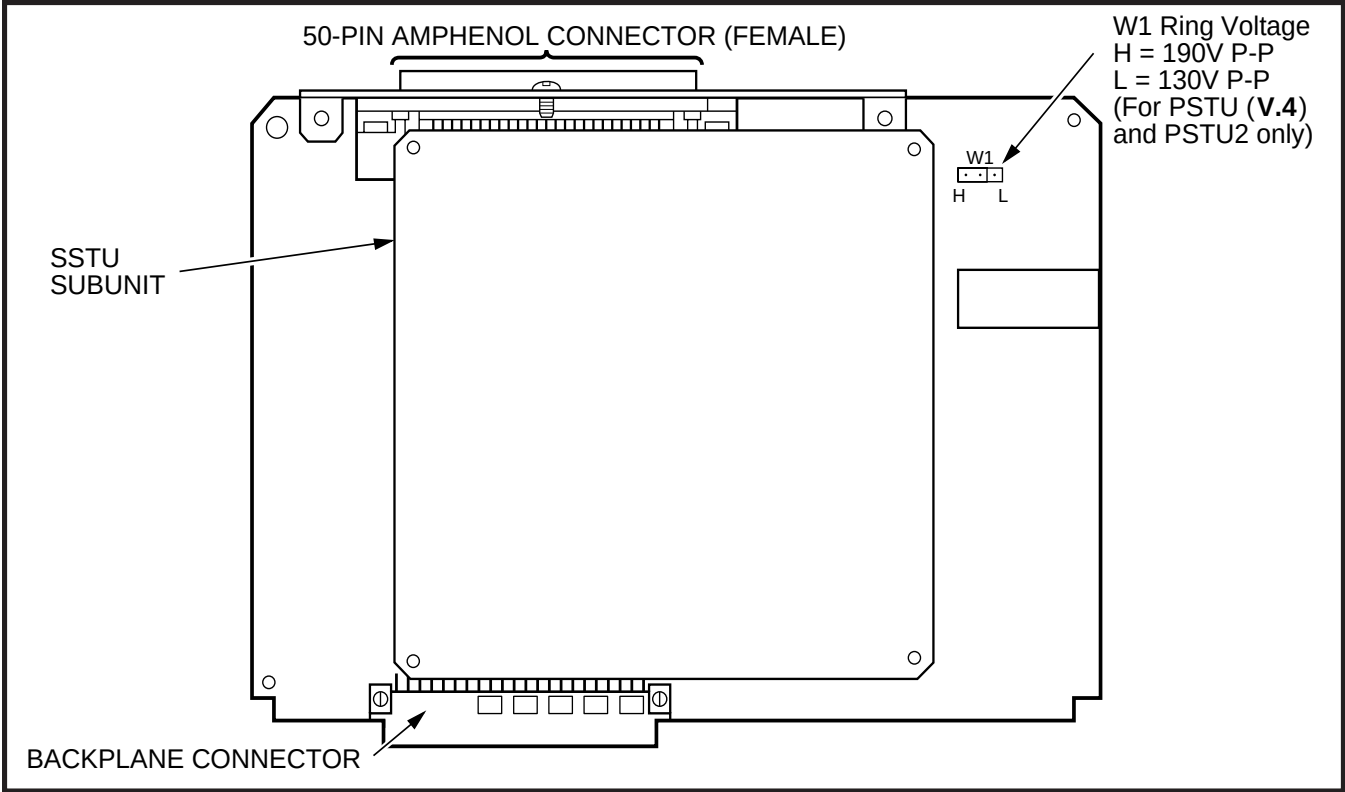

FIGURE 6-7
6.02 PSTU controls are shown in Figure 6-7 and described in Table 6-C.
- 2) Ensure that the PSTU subunit (SSTU) is securely attached to the PSTU (Figure 6-7).